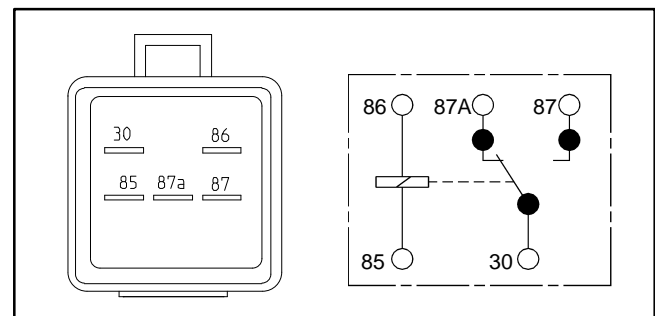

Figure 23
3. Using a multimeter (ohms setting), measure coil resistance between terminals 85 and 86 (Fig. 23). Resistance should be between 70 and 90 ohms.
4. Connect multimeter (ohms setting) leads to relay terminals 30 and 87 (Fig. 23). Ground terminal 86 and apply +12 VDC to terminal 85. The relay should make and break continuity between terminals 30 and 87 as +12 VDC is applied and removed from terminal 85.